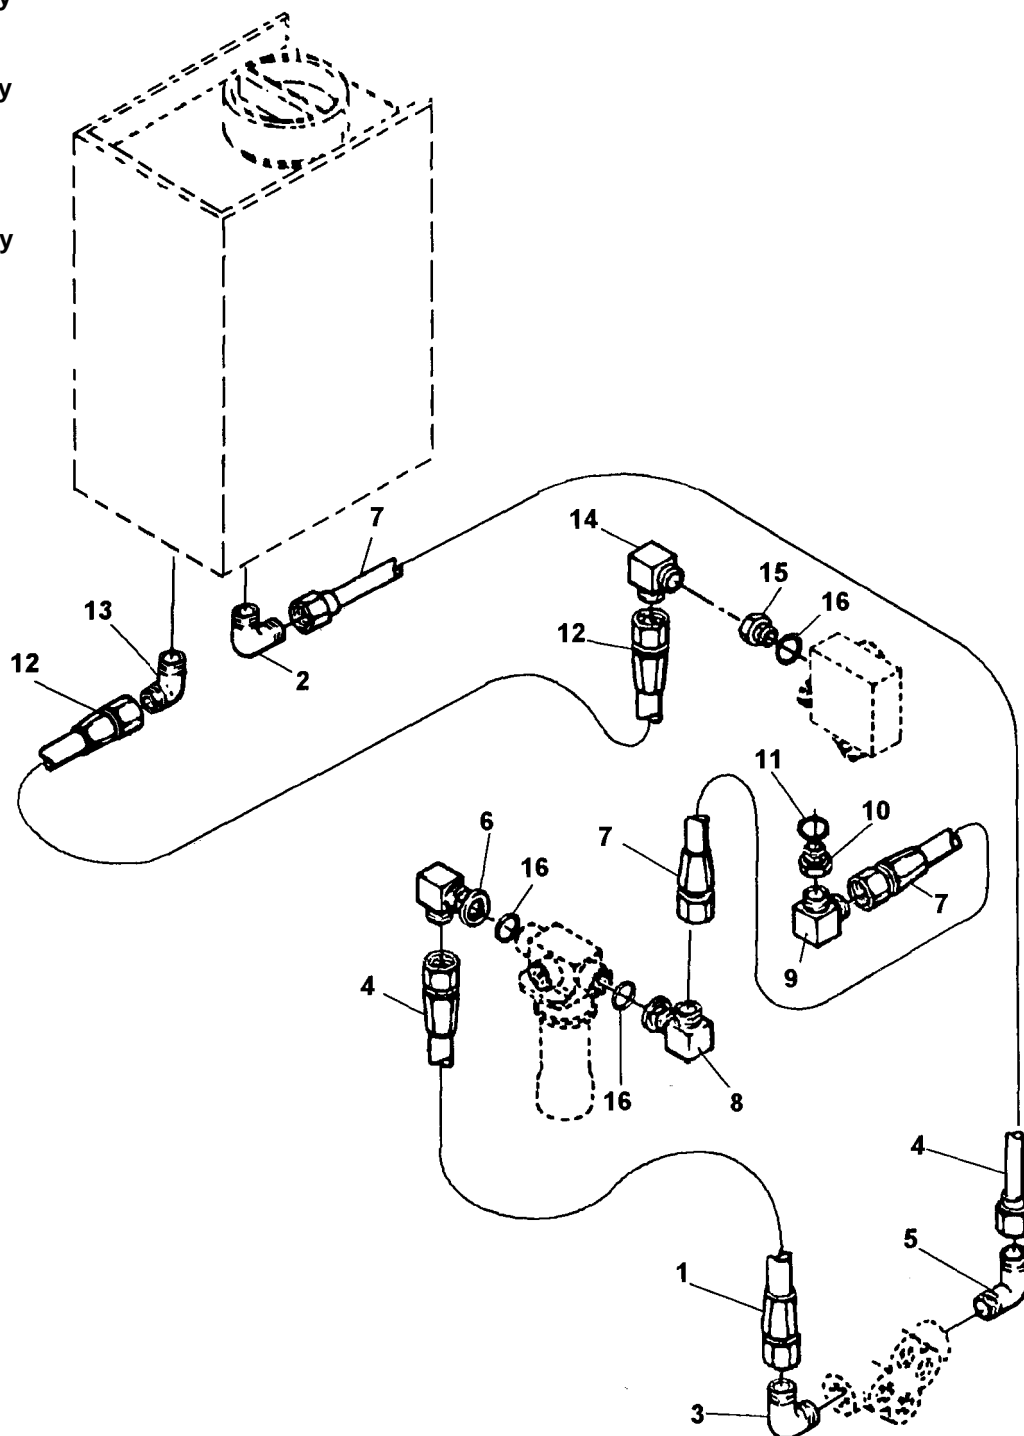

Figure 4-30. Hydraulic Lines and Fittings, Exploded View
- a. Removal. Drain hydraulic system (see paragraph 4-47). Remove damaged hydraulic lines by following the ascending numerical sequence of index numbers (1 through 16) assigned to Figure 4-30.
- b. Installation. Install hydraulic lines that are damaged by following the ascending numerical sequence of index numbers (1 through 16) assigned to Figure 4-30.